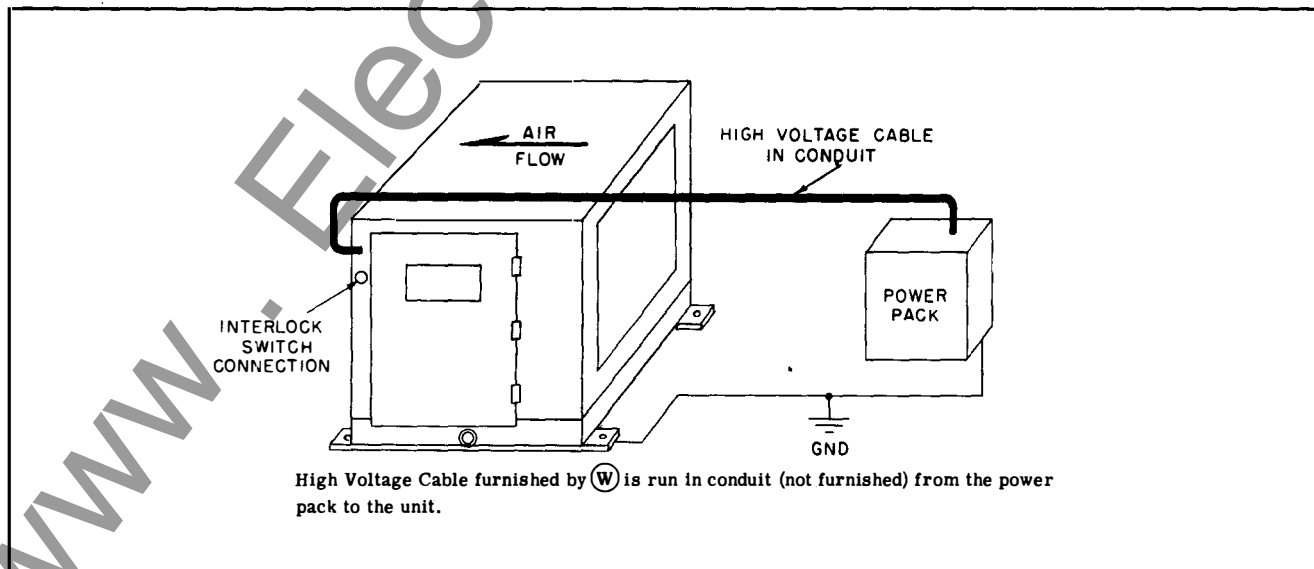

Fig. 10 High Voltage Conduits and Grounding
**High Voltage Cable.** Install 1/2" rigid conduit (not supplied) between the power pack and cabinet. See Fig. 10. A coil of high voltage cables is supplied for installing in conduit. Cables are marked to show proper voltages for connections in power pack.
**Electrical Grounding.** High voltages are supplied from the power pack to the cells with single conductor cables. A common ground return through the cabinet to the power pack is required to complete the circuit and for safety purposes. See Fig. 10. Connect the cabinet and power pack case to a common low resistance ground, using solid copper wire.